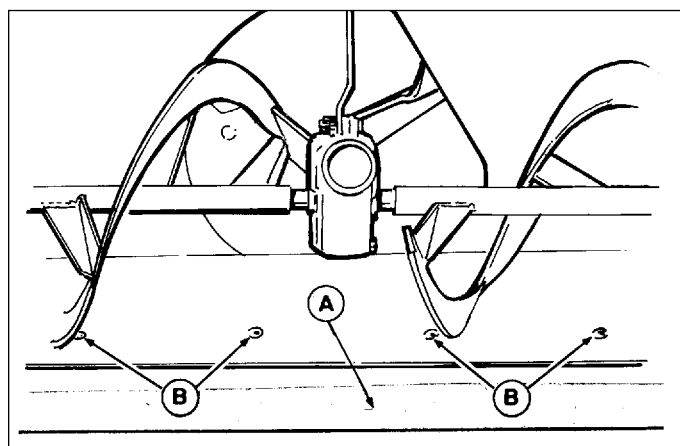

Figure 6. Scraper Bar Adjustment
3. Inspect location where scraper bar (A, Figure 6) meets snowthrower housing.
4. Using 1/2" wrench remove six nuts, washers, and bolts (B, Figure 6).
5. Remove scraper bar (A).